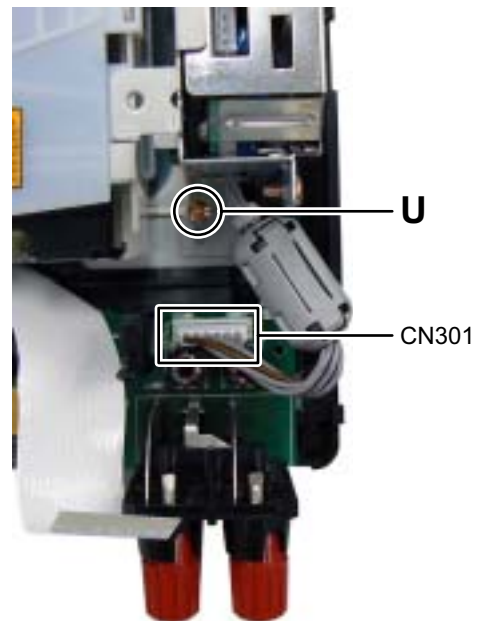

Fig.16
3.1.9 Removing the Digital amp board (See Fig.16)